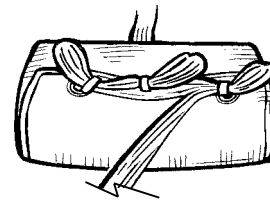

FIG. 5
8. Mate the locking stows with the suspension lines to close the mouth of the bag. Center locking stow, to be stowed first (FIG. 5).